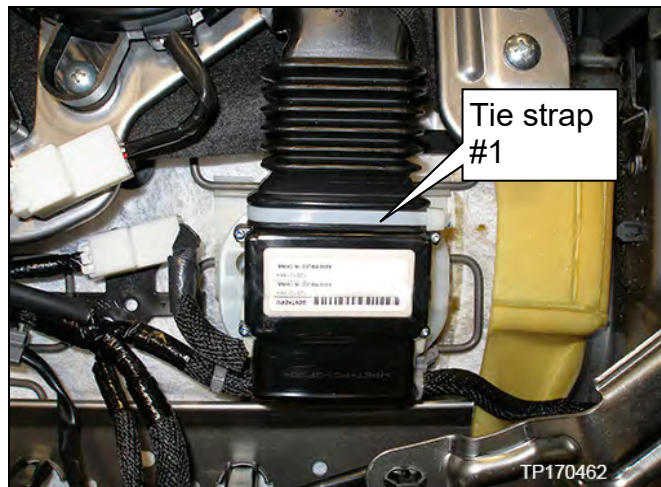

Figure 8
17. Install tie strap #1 around blower duct as shown in Figure 8.